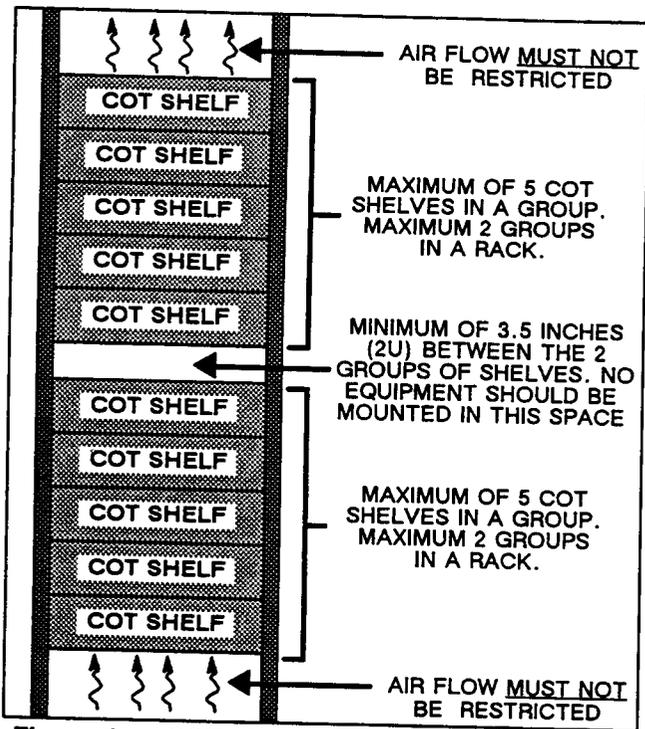

Figure 1. COT Shelf Orientation For Proper Heat Dissipation
- Maximum of 10 shelves per rack for proper heat dissipation. See Figure 1.